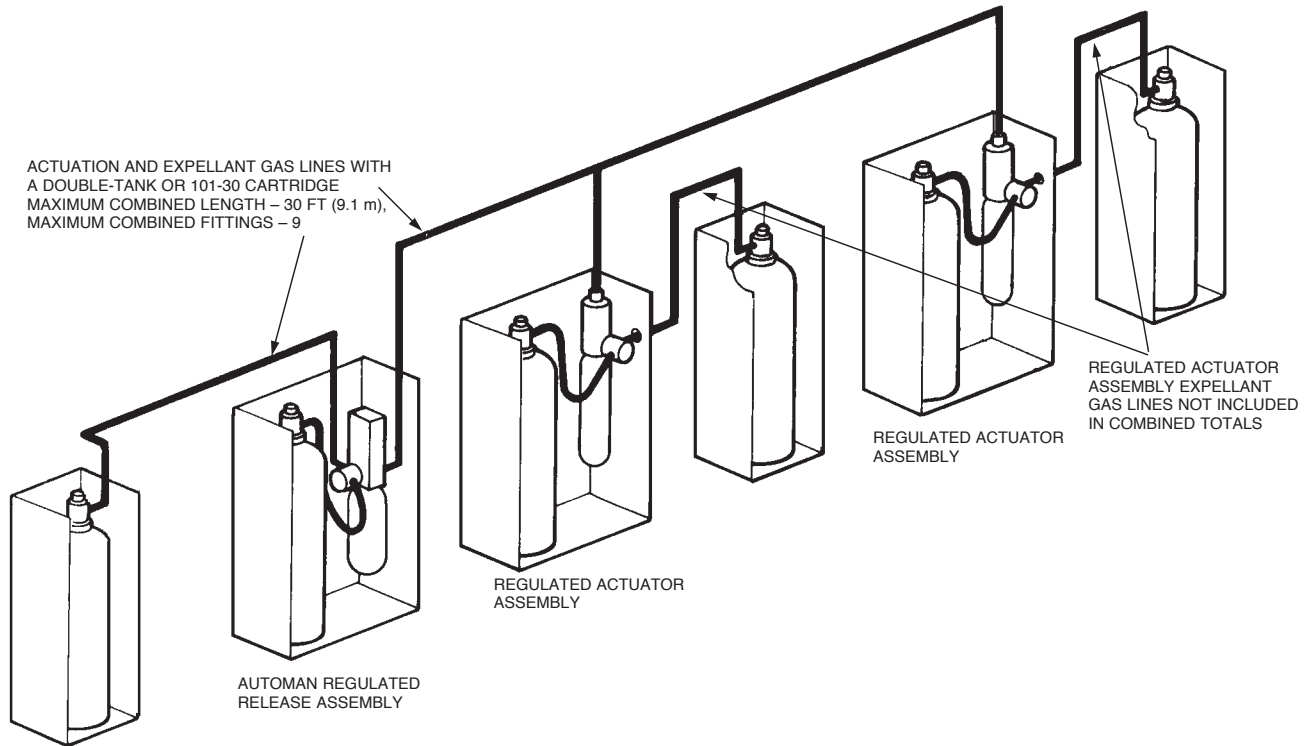

FIGURE 5-17
- ▶ 4. If an expellant gas line is connected to the regulated release assembly along with an actuation gas line, the total combined length of the actuation and expellant gas line **must not** exceed 30 ft (9.1 m) of 1/4 in. pipe when using a double-tank nitrogen cartridge or a LT-A-101-30 nitrogen cartridge or a 101-30 carbon dioxide cartridge. See Figure 5-17.
4. If an actuation gas line is connected to the regulated release assembly along with an expellant gas line, the total combined length of the gas lines **must not** exceed 30 ft (9.1 m) when using a double-tank nitrogen cartridge or a 101-30 CO₂ cartridge. See Figure 5-17.